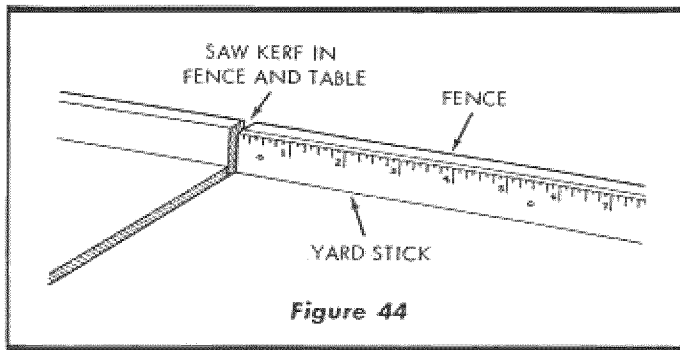

Figure 44
4. A scale may be attached to the fence to aid the operator when measuring lengths during cross-cut operations. This can be accomplished by tacking a yard stick to the fence as shown. (See figure 44.)